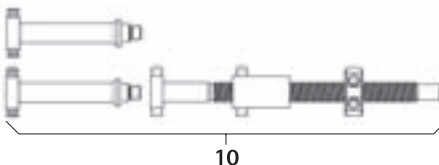

Fig. 16
- Montar o fuso distractor **10**, ver Fig. 16.